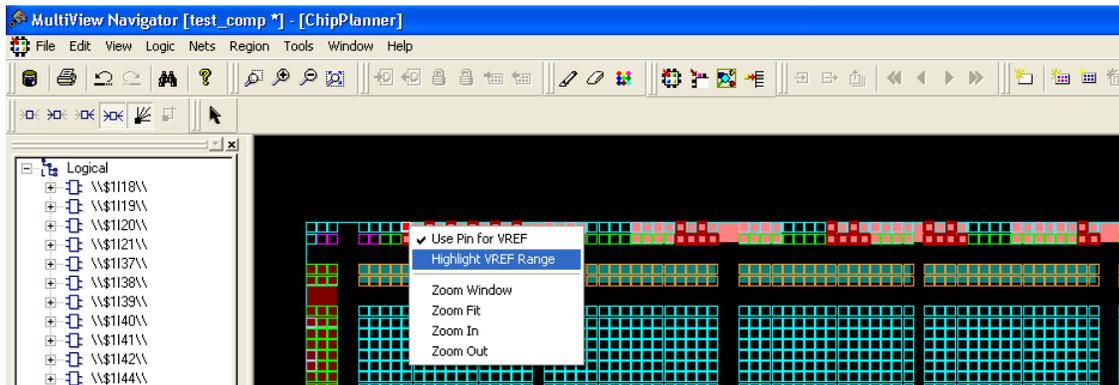

Figure 13-14 • VREF Range
- Right-click and then choose **Highlight VREF range**. All the pins covered by that VREF pin will be highlighted (Figure 13-14).